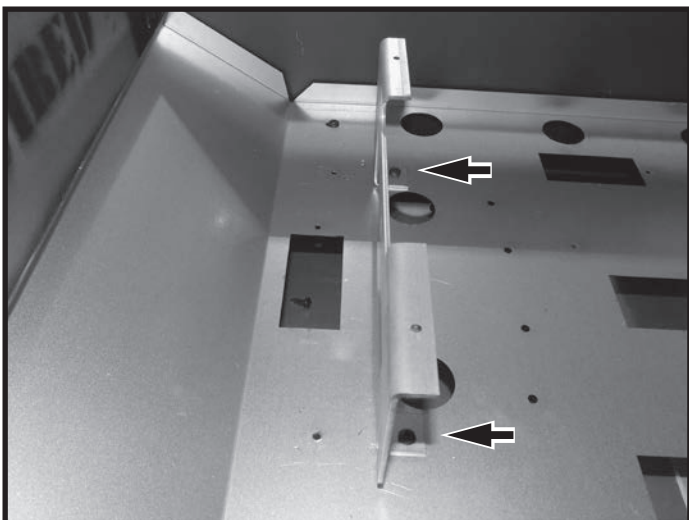

Figure 5: Securing outer leg on left hand side secondary floor panel.
4. Place one of the two outer legs on the left hand secondary floor panel. Be sure to secure this leg in the orientation shown and secure to the second set of holes in from the left side (Figure 5).